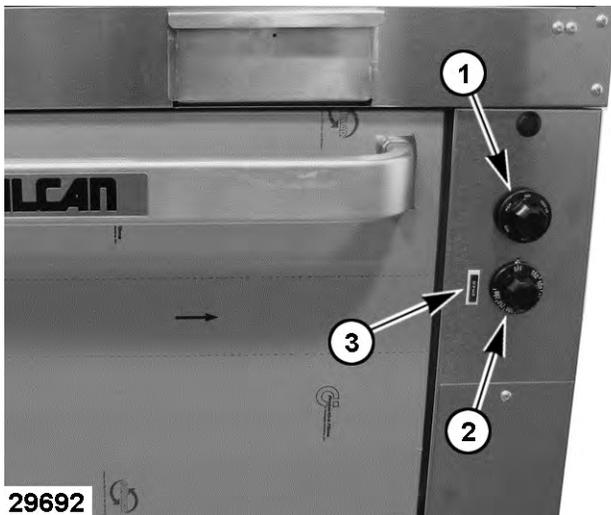

Fig. 33
2. Set the infinite switch (1, Fig. 33) for the top oven element to OFF during oven thermostat calibration.
3. Set the thermostat (2, Fig. 33) to 350°F.
5. Note the tester reading when the oven indicator light (3, Fig. 33) turns ON and OFF.